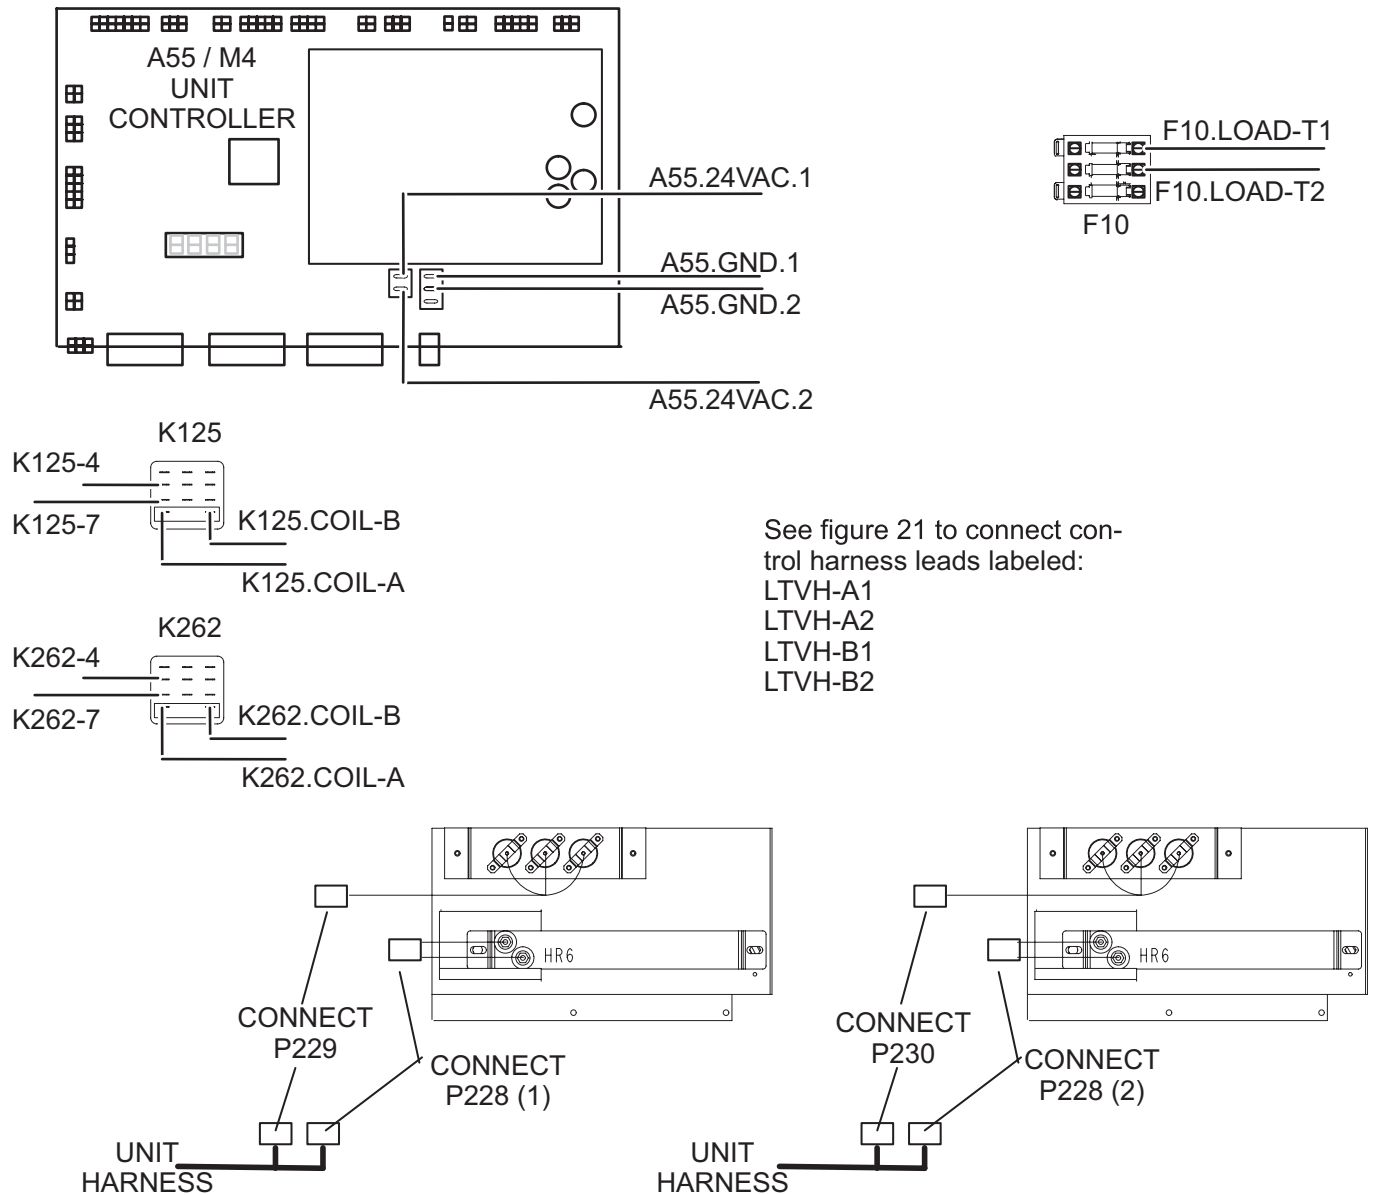

FIGURE 20
- 5 - Make wire connections as shown in FIGURE 20.